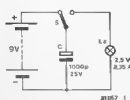

Figure 1. The circuit of the light emitting pistol could hardly be simpler. The fully charged capacitor is discharged rapidly through a low voltage bulb.
The circuit of the 'light emitting pistol' is shown in figure 1. Two 9 V batteries connected in series charge a capacitor. When the microswitch (S) is closed the